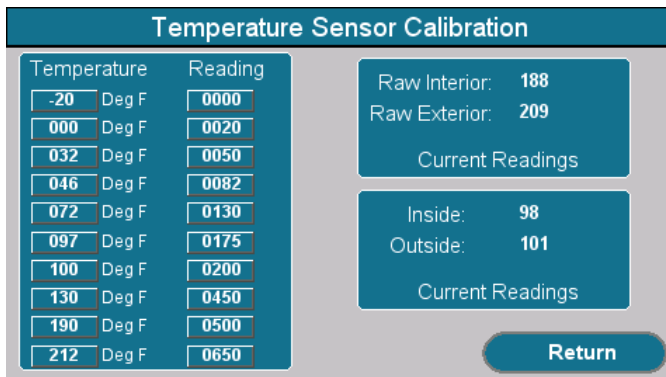

Fig. 7B
- [Scale] button to activate temperature sensor calibration (Fig. 7B)